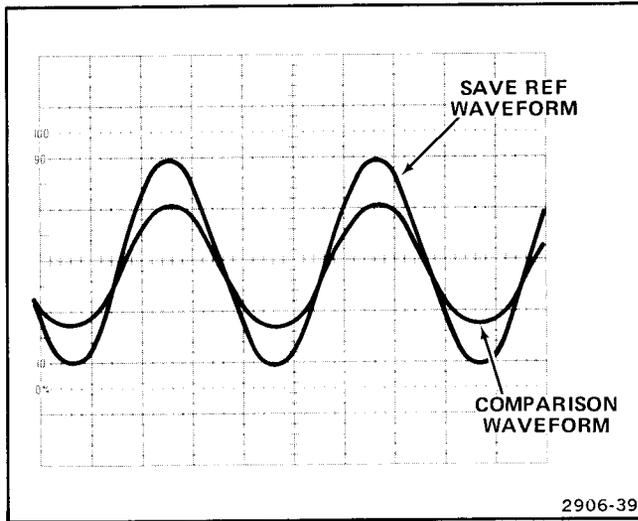

Figure 22. Waveform comparison.
4. Use the selected channel Vertical POSITION control to overlay the unknown waveform on the reference waveform for making the comparison (see Figure 22). The vertical deflection and sweep rate remain calibrated to allow direct measurement from the graticule, or the VOLTS or TIME cursors may be used to determine voltage or time differences.